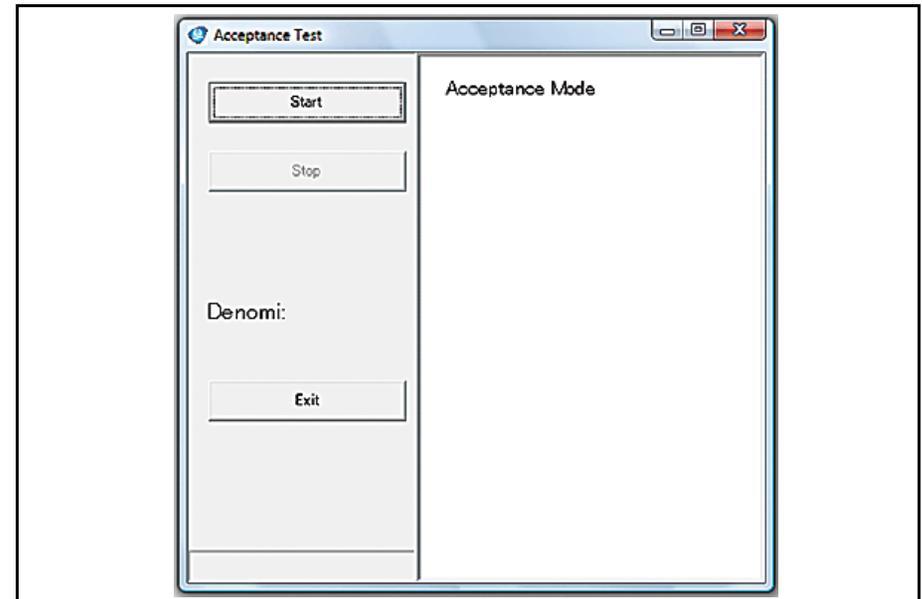

Figure 5 Typical Acceptance Test Screen
7. Run the Accept Mode Test (Bill Acceptance). The screen shown in Figure 5 will appear.